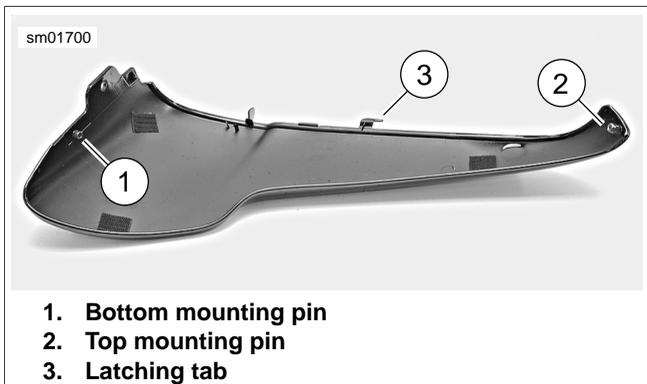

Figure 1-11. Radiator Side Cover (typical) (inside view)
3. See Figure 1-11. Radiator side cover is held in place by a bottom mounting pin (1), top mounting pin (2) and latching tab (3). Remove radiator side covers as follows:
1. See Figure 1-11. Position radiator side cover on radiator front cover and gently slide side cover upward until matching tab fits into tab mounting lip.